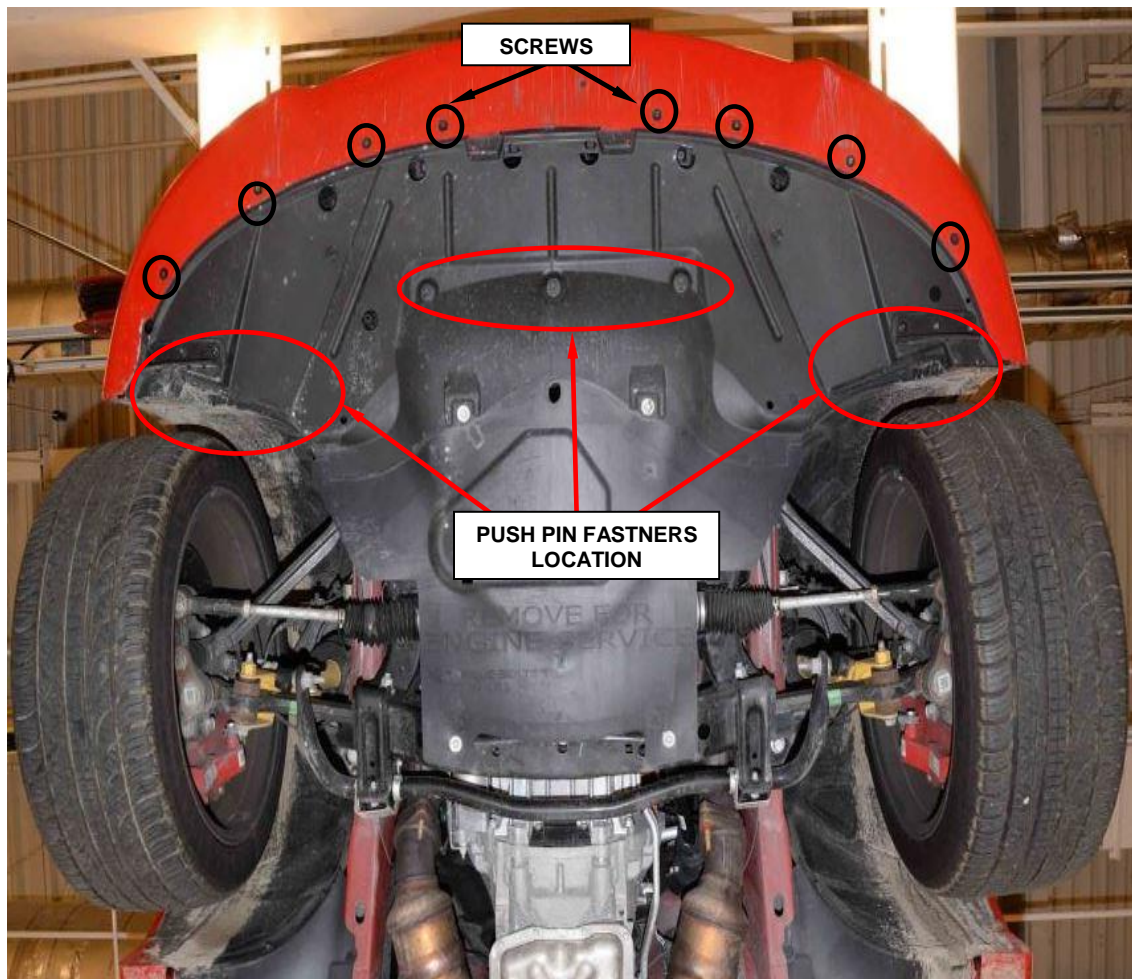

Figure 5 – “LD” Model Belly Pan Cover
5. **LD Model:** Remove the front section of the belly pan under the front fascia by removing the eight screws and 10 push pin fasteners (Figure 5).